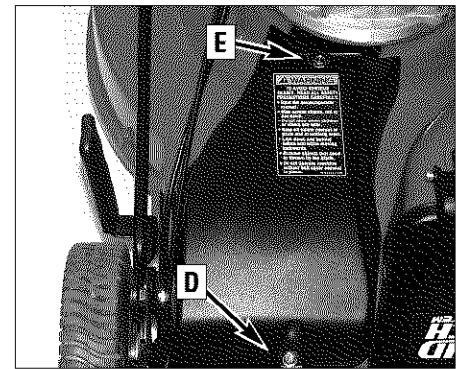

Figure 5-1: Belt cover
1. Use a 3/8" wrench to remove both screws (D, E, Figure 5-1).
2. Tighten screws snugly. Do not over-tighten (D, E, Figure 5-1).